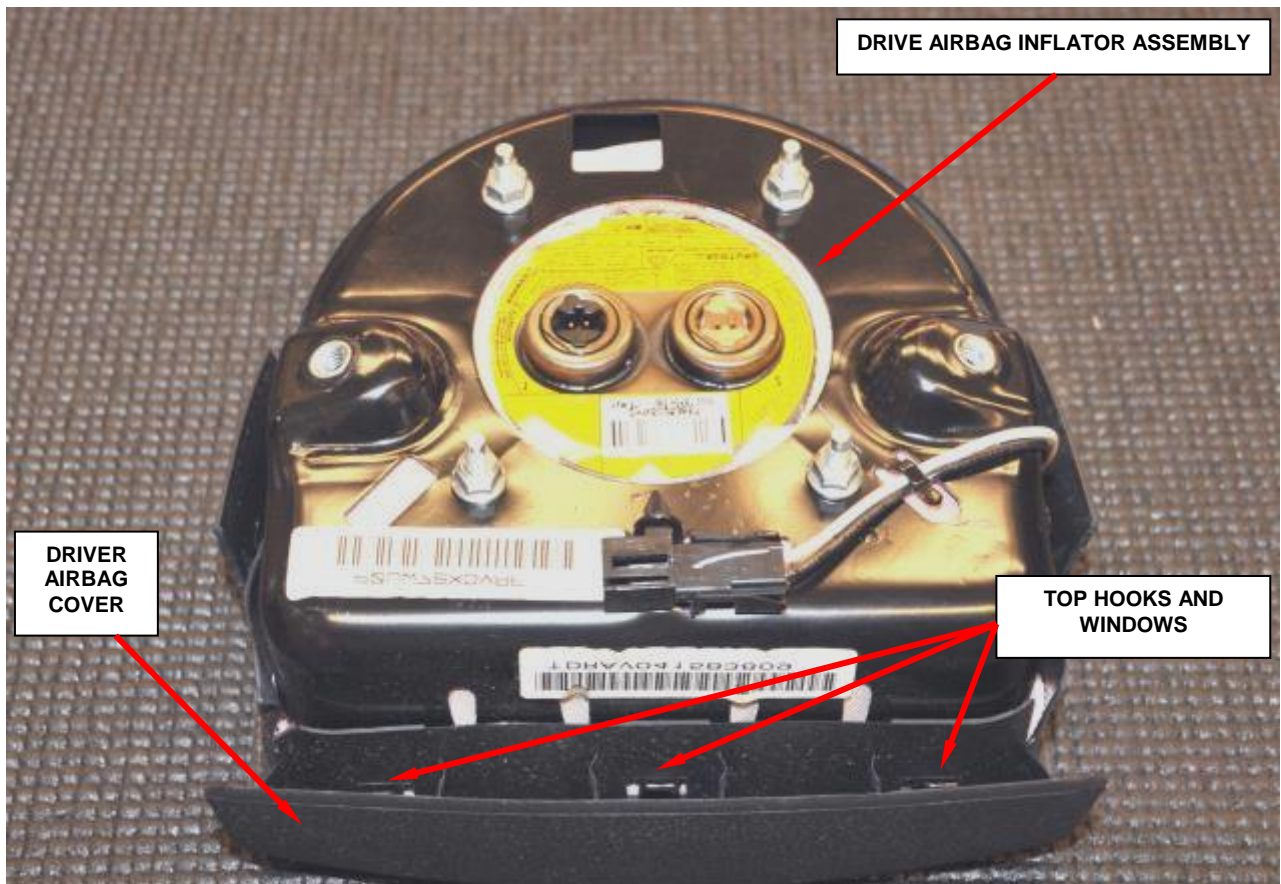

Figure 21 – Driver Airbag Inflator Assembly to Cover
17. Install the new inflator assembly to the original driver airbag cover by first inserting the top hooks into the windows (Figure 21).